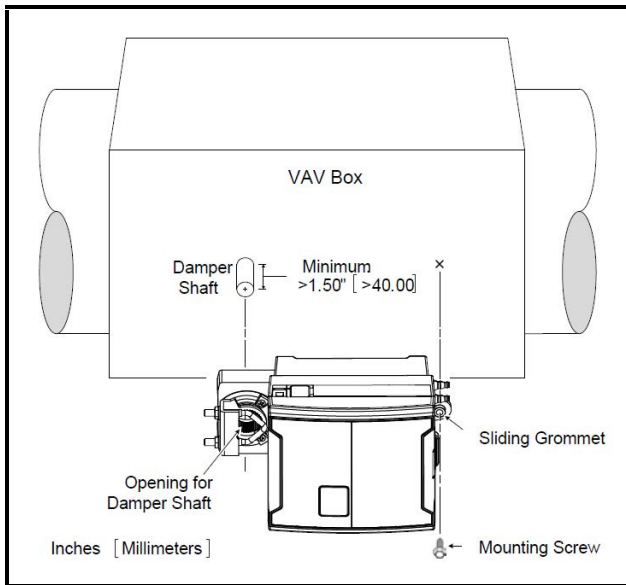

Figure 2-3 - VAV Damper Shaft Standard Mounting Diagram
3. Screw the controller onto the VAV box through the controller's Sliding Grommet. The sliding grommet allows the controller to move back and forth when the VAV box's damper shaft is off center. Ensure to center the grommet along its travel range and ensure that the screw enters the VAV box at a right angle. Using a power screwdriver with a 6" extension (Figure 2-6), attach the controller to the VAV box with the 1" [25mm] screw provided with the controller (Figure 2-7) through the controller's sliding grommet as shown in Figure 2-3. Otherwise, mark the positions for the screw on the VAV box with a punch and then drill a hole into the VAV box. Then attach the controller to the VAV
11. Finalize the installation by rotating the damper to the full open position. See *Figure 2-3*.